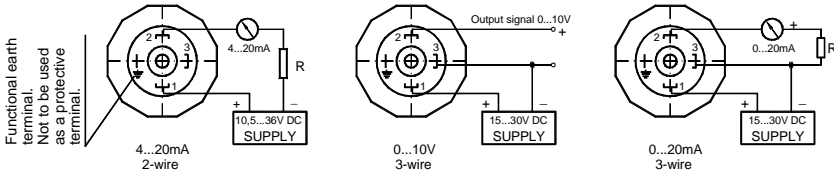

Fig. 1a. Wiring diagram for PCE-28, PRE-28 transmitters and PCE-28P probe (Not applicable to Ex version)
The methods of earthing the transmitters are shown in figures 1a, 2.
12.5.1. The **PCE-28P** probe should be connected as shown in figure 1a.